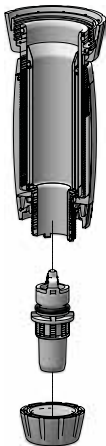

Fig. 27
- Unscrew the suction valve locking nut (Fig. 27)